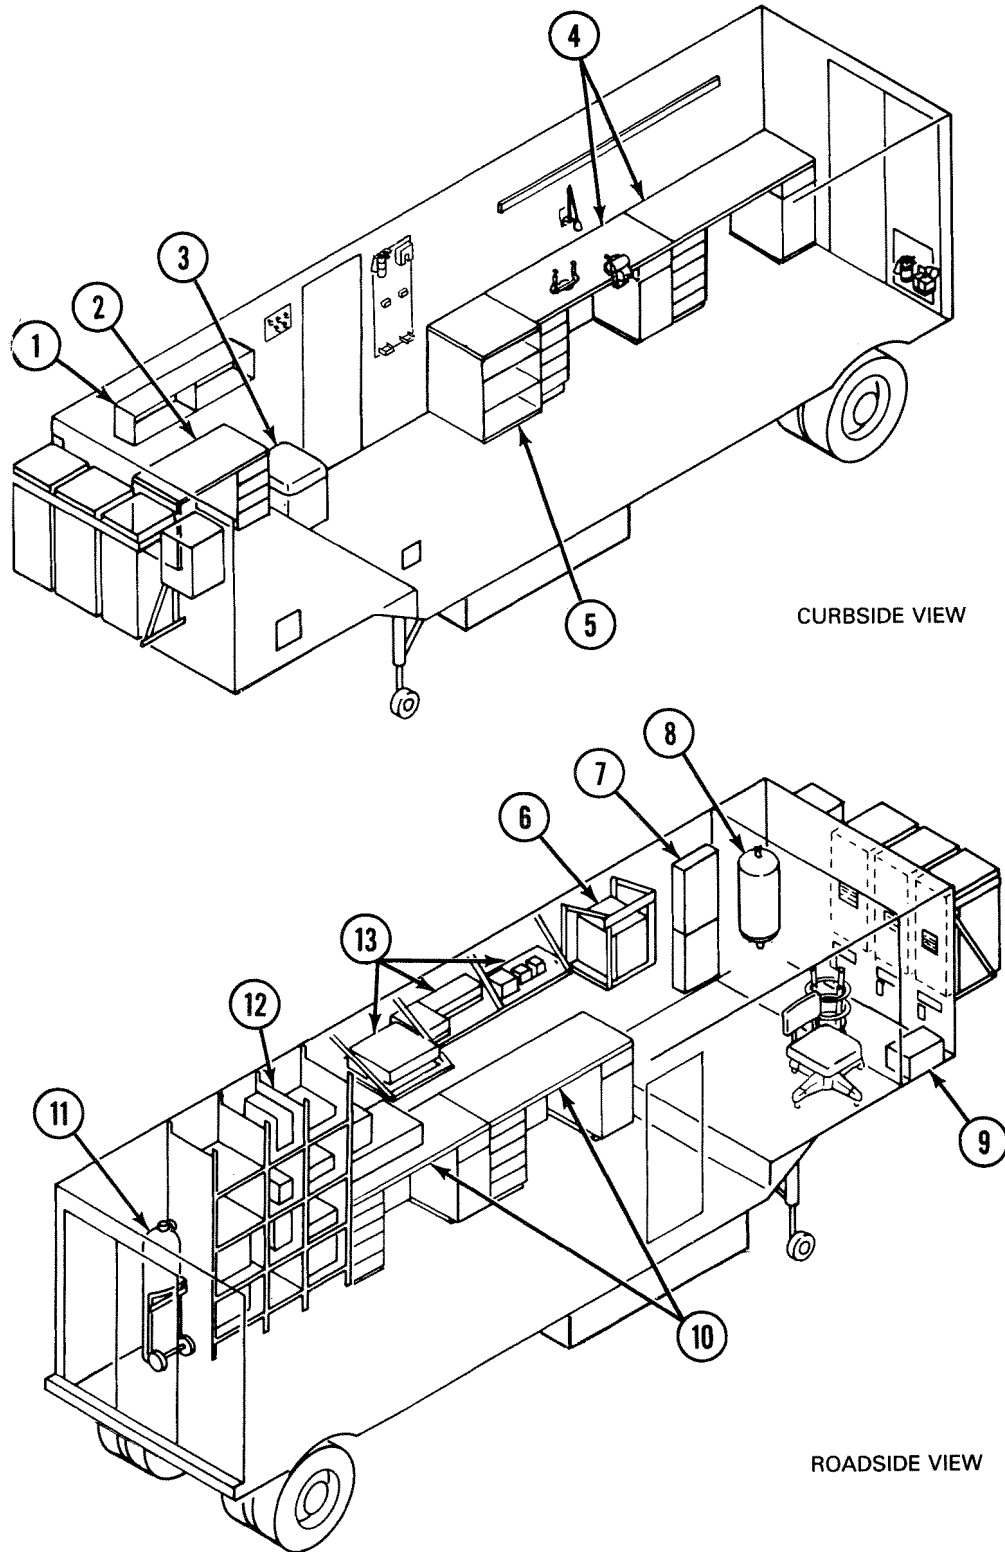

Figure 2-34. Electrical Repair Shop Major Interior Features
b. Interior Features. Figure 2-34 shows electrical repair shop major interior features.